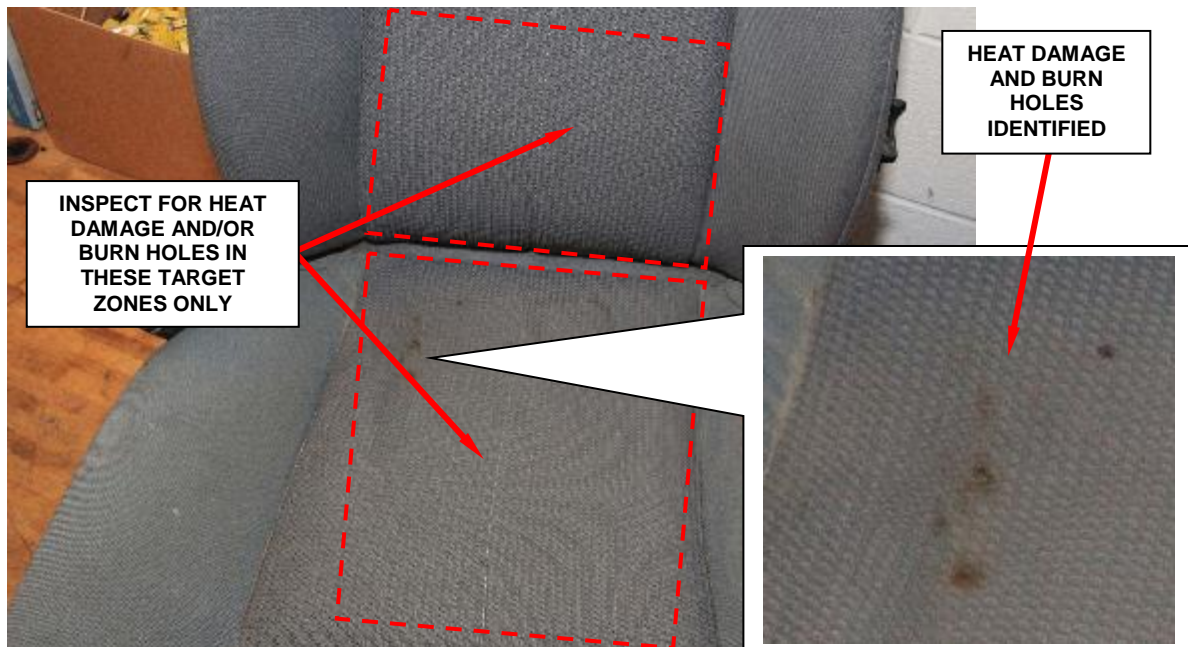

Figure 2 – Inspect Seat Covers for Heat Damage and/or Burn Holes
6. Inspect the right and left front seat covers for damage due to overheating in the heater pad (Figure 2).